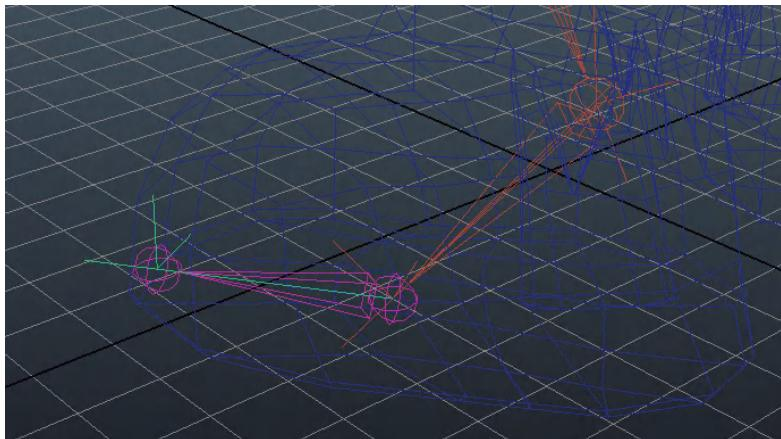

FIG 8.10 Final IK chain between ball and toe.
Step 15: Create one more IK chain between the L_Ball and L_Toe. Rename the ikHandle to L_ToeIK (Fig. 8.10).